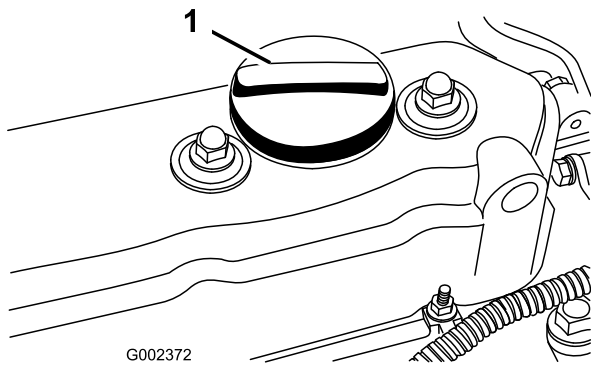

Figure 11
3. If the oil level is low, remove the filler cap (Figure 11) and add enough oil to raise the level to the Full mark on the dipstick.